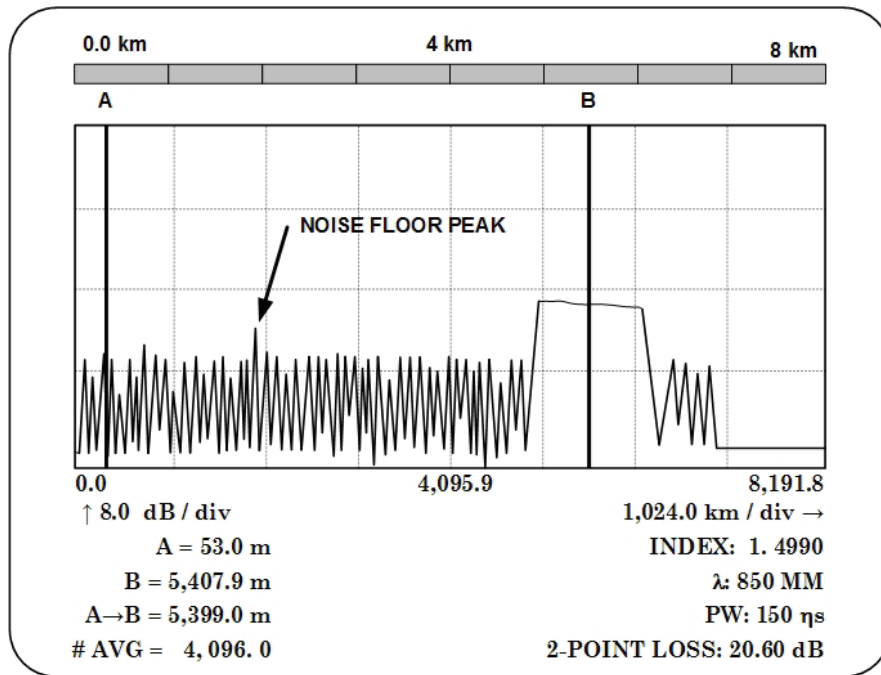

Figure 13. Top of FOCUS generated pulse within 8 dB of TI noise floor peak for fast scan (TD-260C).
(32) Press **FAST SCAN** pushbutton and wait for **LASER ON/AVG** and **WORKING** on display to go off.
(33) Record 2 point loss value as next Power High column entry on TD-260C (850 nm) Attenuation Data Sheet.
(34) Set **FOCUS-SWCM SWITCHED ATTN** to **IN**.
(35) Press TI **FAST SCAN** pushbutton and wait for TI **LASER ON/AVG** and **WORKING** indications to go off.
(36) Record 2 point loss value as next entry in Power Low column on TD-260C (850 nm) Attenuation Data Sheet (appendix A).
(37) Repeat technique of steps a (29) through (36) until top of **FOCUS GENERATED PULSE** is within 8 dB of TI **NOISE FLOOR PEAK** (fig. 13).